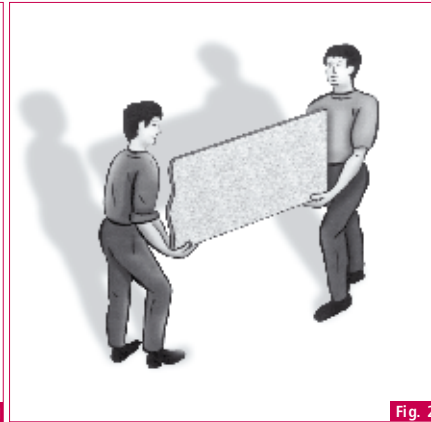

Fig. 2
- 5.4 Never attempt to carry sheets of HI-MACS® on your own. The sheet should be lifted by two people, one at either end. Always lift in a vertical position (Fig. 2).
- “Smile” warp. If the sheet is deflected along its edge in the shape of a smile (Fig. 2) and if the warp is greater than 1.5 mm per metre (Fig. 2), contact your HI-MACS® supplier for inspection and product replacement if necessary.